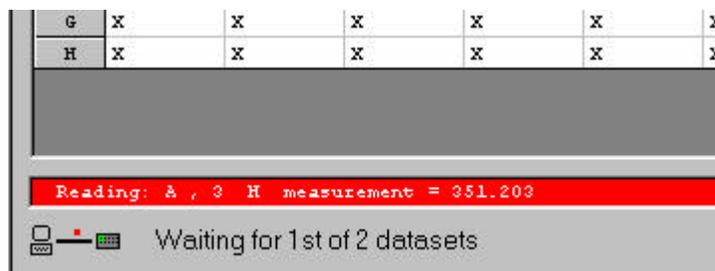

Figure 8
- Wait for the instrument to complete the run. It should take about 2 to 6 minutes per run. While the run is in progress a status bar at the bottom of the main screen will display the current state of the instrument as shown in figure 8.